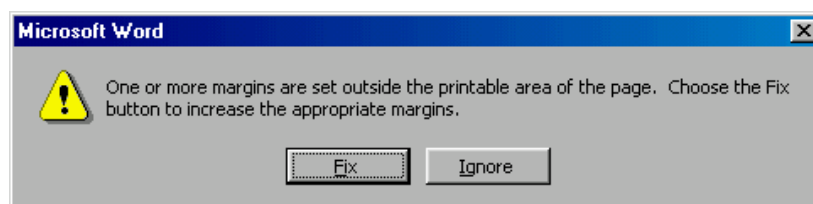

Figure E-3 Warning prompt before printing
- 3) If the warning prompt as shown in Figure E-3 appears before printing, click <Ignore> to continue the printing.